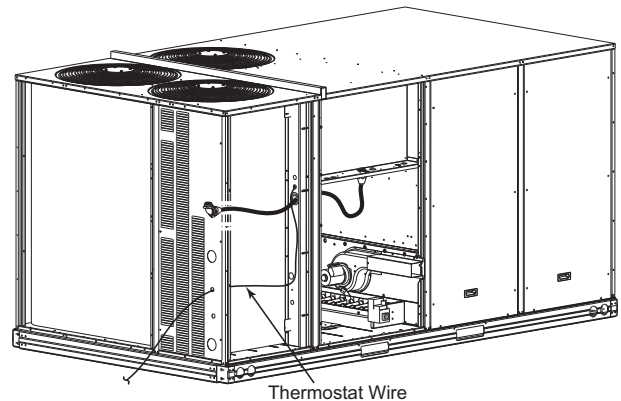

Fig. 39 — Thermostat Wire Routing
The 48FE**16 requires an external temperature control device. This device can be a thermostat (field-supplied) or a SystemVu™ controller (available as factory-installed option for use on a Carrier Comfort Network® or as a stand-alone control). All field added wire must comply with UL and local NEC standards. See “Unit without Thru-Base Connection Kit” on page 21 and use routing path shown in Fig. 39 to help with compliance as needed.
Pass the thermostat control wires through the bushing on the unit end panel. Route the wire through the snap-in wire tie and up to the web bushing near the control box. Route the wire through the bushing and into the bottom left side of the control box after removing one of the two knockouts in the corner of the box. Use a connector at the control box to protect the wire as it passes into the control box. Pull the wires over to the terminal strip at the upper left corner of the Unit Control Board (UCB). Use the connector at the control box and the wire tie to take up any slack in the thermostat wire to ensure that it will not be damaged by contact with the condenser coil. See Fig. 39.
1. Route the humidistat 2-conductor cable (field-supplied) through the bushing the unit's louvered end panel. See Fig. 39.